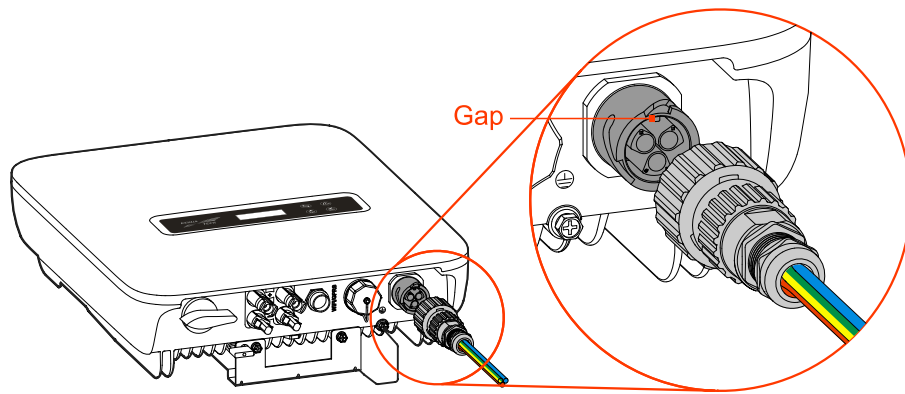

Figure3-24 Insert the AC connector
Step 3 Insert the AC connector to the GRID port (as shown in Figure3-24) and lock it.